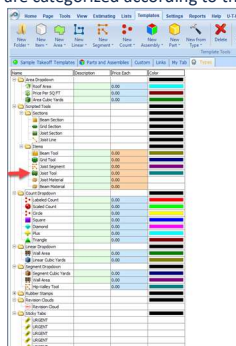

Figure 3
3. Now click on **Templates** tab (Figure 3) and you will see the yellow **Types** tab, which is orange in color and has a cog to the left of it. Click on **Types**: yours will look similar to Figure 3, except that the window shown below has most of the + boxes clicked on to display the sub-Items. PlanSwift comes with several custom **Items**. These items are categorized according to the base digitizer class type. Open **Scripted Tools**, then **Items**, then double-click **Joist Tool** to see its properties.